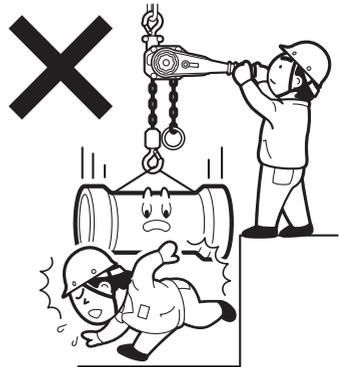

Figure 6
- (1) Individuals unfamiliar with the contents of the instruction manual and caution nameplate must not operate this product.
- (2) Do not use this product to support, lift, or transport people.
- (3) Do not allow anyone to enter the area underneath or within the movement range of suspended loads. Additionally, do not move the load above anyone. (Figure 6)
- (4) Use this product within a temperature range of -40°C to $+60^{\circ}\text{C}$ (with humidity of less than 100%RH).
- (5) Do not use this product in water.
- (6) Never use this equipment in locations constantly subjected to wind, rain, or waves, or in locations susceptible to salt damage, acid, alkali, etc., as this could cause damage to the equipment and load chains.